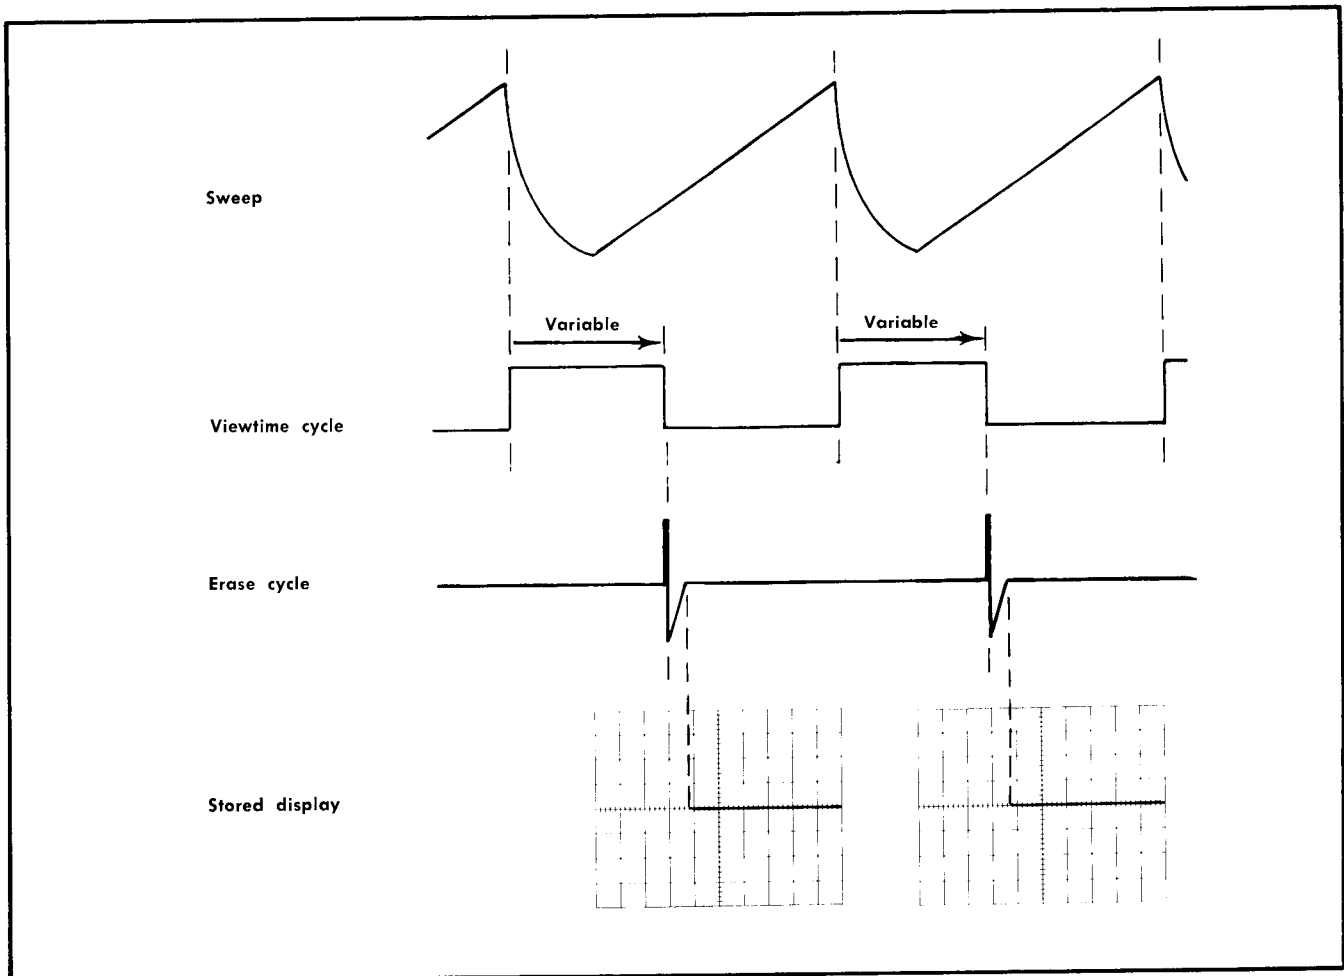

Fig. 2-5. Ladder diagram showing time relationship between sweep and retrace, viewtime and erase cycle, and stored display at slow sweep speeds.
5. Observe that erasure occurs while a sweep is progressing across the screen, allowing only the portion written after erasure to be stored. Fig 2-5 shows the time relationship of the sweep, viewtime, erasure and the stored display.
Fig. 2-6. Ladder diagram similar to that shown in Fig 2-5 showing sweep triggered by the Auto-Erase circuit at a time corresponding to the end of the erase cycle.